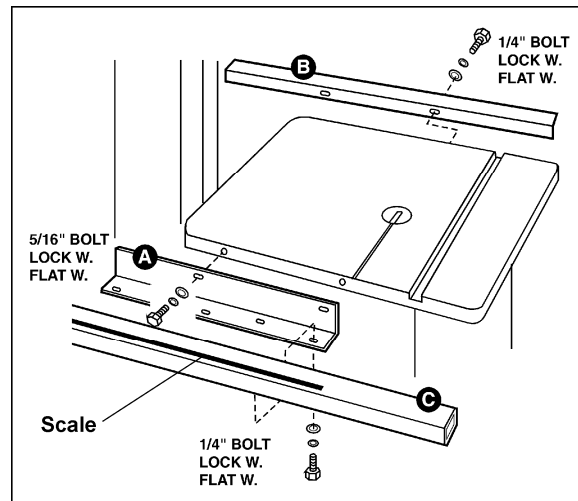

Figure 1a
1. Mount the front rail (A, Figure 1a) to the saw table with two 5/16 x 1-1/4 hex cap screws, two 5/16 lock washers, and two 5/16 flat washers. Screws should be placed horizontally in approximately the center of the slot. Hand tighten the screws.
2. Mount the rear rail (B, Figure 1a) to the table with two 1/4 x 5/8 hex cap screws, two 1/4 lock washers, and two 1/4 flat washers. Hand tighten the screws.
5. Attach the guide rail (C, Figure 1a) to the front rail with five 1/4 x 5/8 hex cap screws, five 1/4 lock washers, and five 1/4 flat washers. The scale on the guide rail should face toward the operator. Hand tighten the screws only.